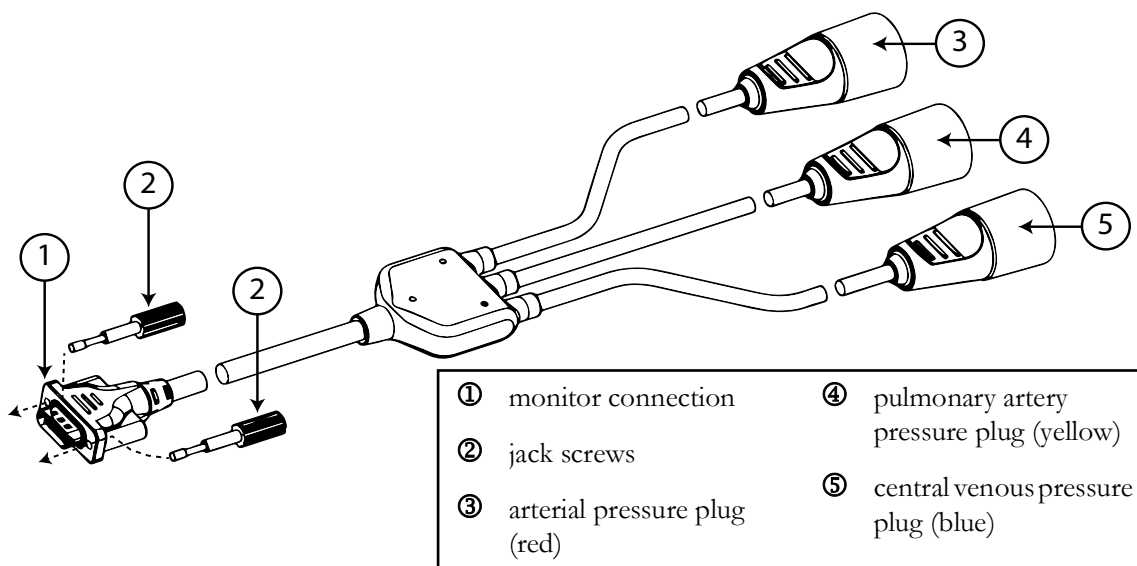

Figure 10-3 HemoSphere pressure-out cable
- 1 Plug the 18-pin connector of the HemoSphere pressure-out cable (see ① in figure 10-3) into the rear panel of the monitor at the pressure out port denoted by the analog out symbol . See ⑨ in figure 3-2 on page 74.
- 2 Use the two jack screws to properly secure the pressure-out cable plug in place. See ② in figure 10-3.
- arterial pressure (AP, red, ③)
- pulmonary artery pressure (PAP, yellow, ④)
- central venous pressure (CVP, blue, ⑤)